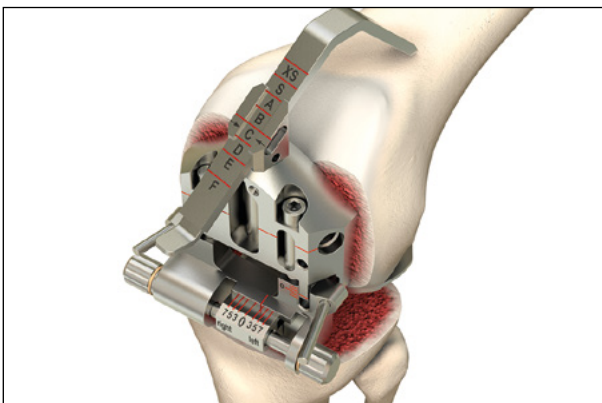

Fig. 20 The femur size is determined with the aid of the anterior feeler
- The femur size is determined with the aid of the anterior femoral stylus, which is placed on the elevation of the femoral metaphysis (Fig. 20)